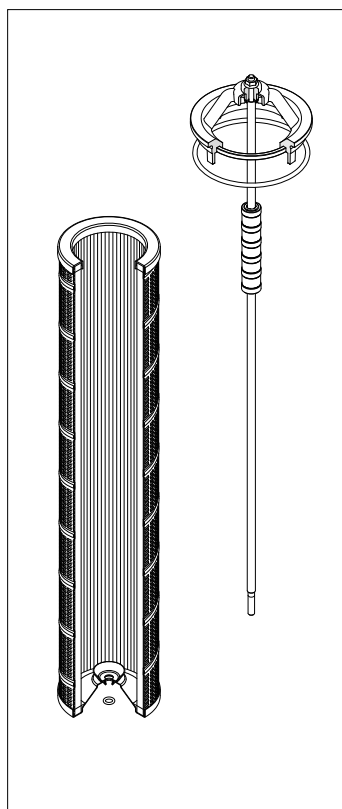

fig. 26
- (Fig. 26) Fit the moulded gasket into the axial groove and the O-Ring onto the radial groove of the insert, embed the O-ring in the filter element end cap